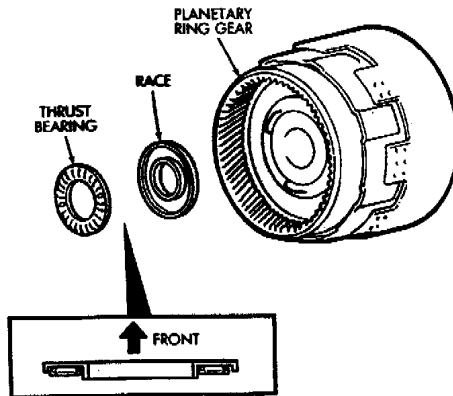

Fig. 28 Installing Ring Gear Bearing And Race
- (35) Coat bearing and race with petroleum jelly and install them in ring gear (Fig. 28). Verify bearing/race size. Bearing outer diameter is 47.7 mm (1.878 in); inside diameter is 32.6 mm (1.283 in). Race outer diameter is 53.6 mm (2.110 in); inside diameter is 30.6 mm (1.205 in).